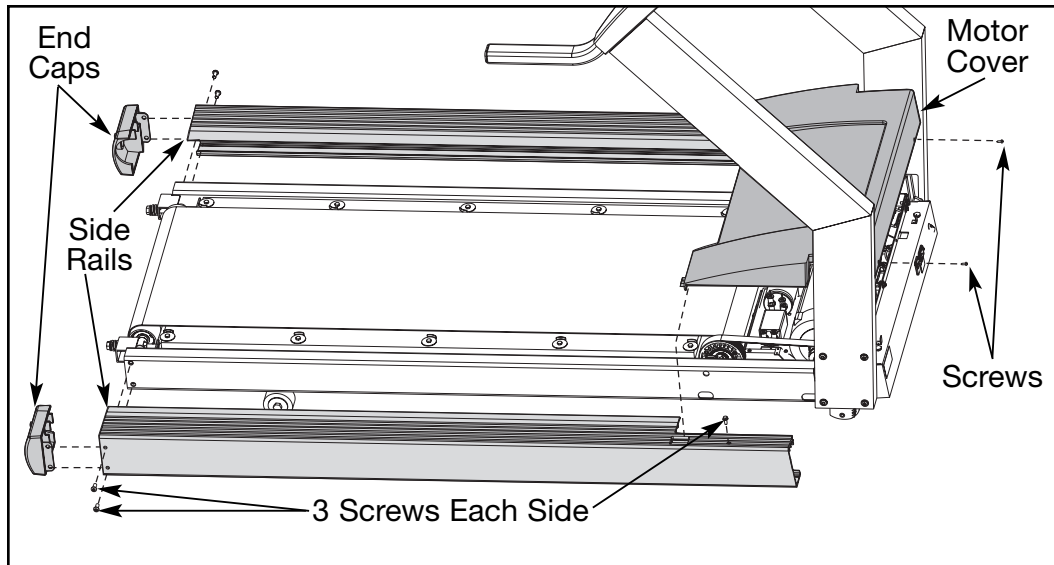

Figure 2
- A.** Turn the main power switch on the front panel to the off (O) position.
- A.** Remove the two Phillips head screws that fasten the motor cover to the frame. Lift the cover and set it aside. This will allow you to remove the side rails. See Figure 2.
- B.** Using a 3/16" Allen wrench, remove the two button head screws on the sides of each side rail. See Figure 2.
- C.** Using a flat head screwdriver, remove the screw on the top of each side rail. See Figure 2.
- B. Using a flat head screwdriver, attach the screw on the top of each side rail. See Figure 2.
- C. Using a 3/16" Allen wrench, attach the two button head screws on the sides of each side rail. See Figure 2.
D. Lower the motor cover in place and tighten the two Phillips screws. See Figure 2.